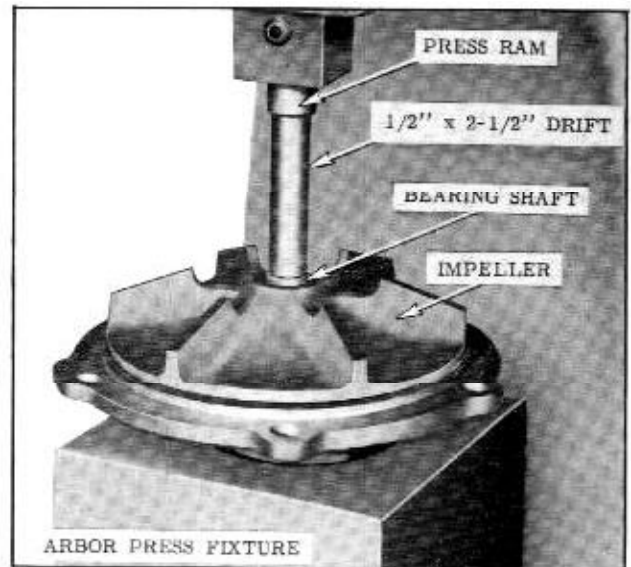

Fig. 8-60 Removing Impeller from Shaft
2. Support outside surface of pump housing in arbor press and press shaft through impeller and housing, pressing on impeller end of shaft toward front of housing. (Fig. 8-60)